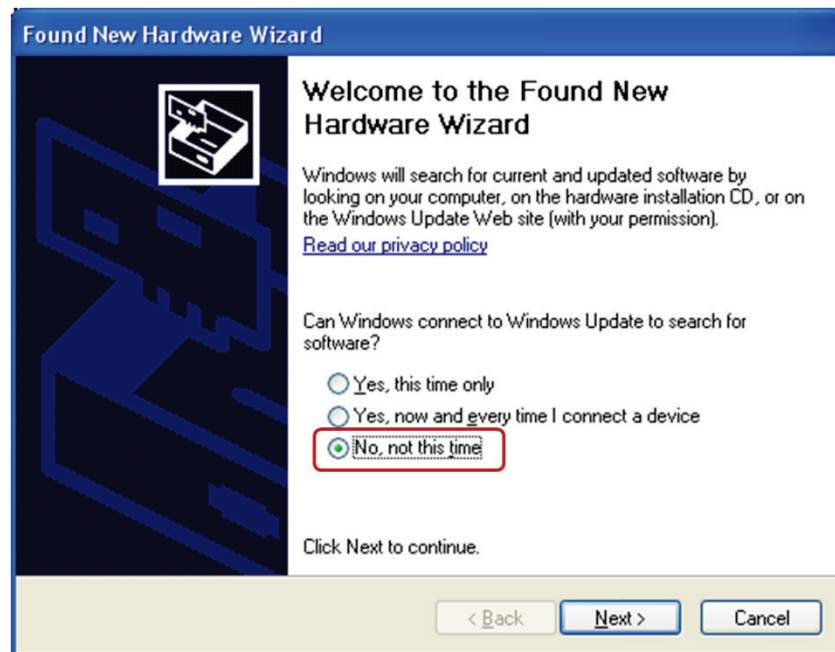

Figure 12
Allow the installation of the device on the system by following the Found New Hardware Wizard (Figures 12 through 15).
4. Select **No, not this time** to not search the Windows Update website. Then select the **Next >** button (Figure 12).